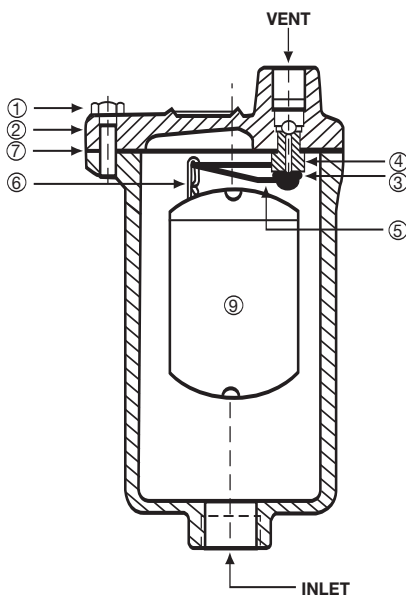
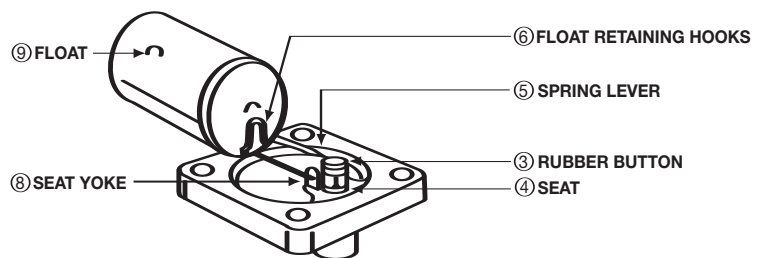

FIG. 1
FIG. 2
1. Remove the four capscrews that attach the cover to the body. (Item 1, Fig.1)
2. Remove the cover from the body making sure not to damage the gasket surfaces on the cover or the body. (Item 2, Fig. 1)
3. Inspect the rubber button and its mating seating surface for damage or foreign material. (Items 3 & 4, Fig. 1 or 2) If the rubber button is damaged or has deteriorated, the lever and button assembly must be replaced.
4. The spring lever and button assembly is removed by pulling the outer wires of the spring lever out of the holes in the seat yoke. (Items 5 & 8, Fig. 2) (See Fig. 1 Note). Next, remove the spring lever and button assembly from the float by pulling it through the retaining hooks. (Item 6, Fig, 1 or 2).
6. Thoroughly clean gasket surfaces and install a new gasket. (Item 7, Fig. 1)